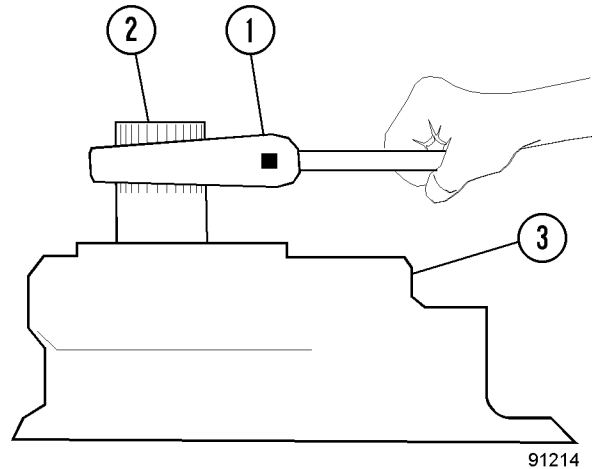

FIGURE 3-17. CHECKING PUMP DRIVE SHAFT ROTATION
27. Use a 45 cm (18 inch) adjustable wrench to check the pump drive shaft rotation. The drive shaft will be tight but should turn freely with a maximum torque of **$15 \text{ N}\cdot\text{m}$ (10 ft lb)** after the initial surge. See Figure 3-17.